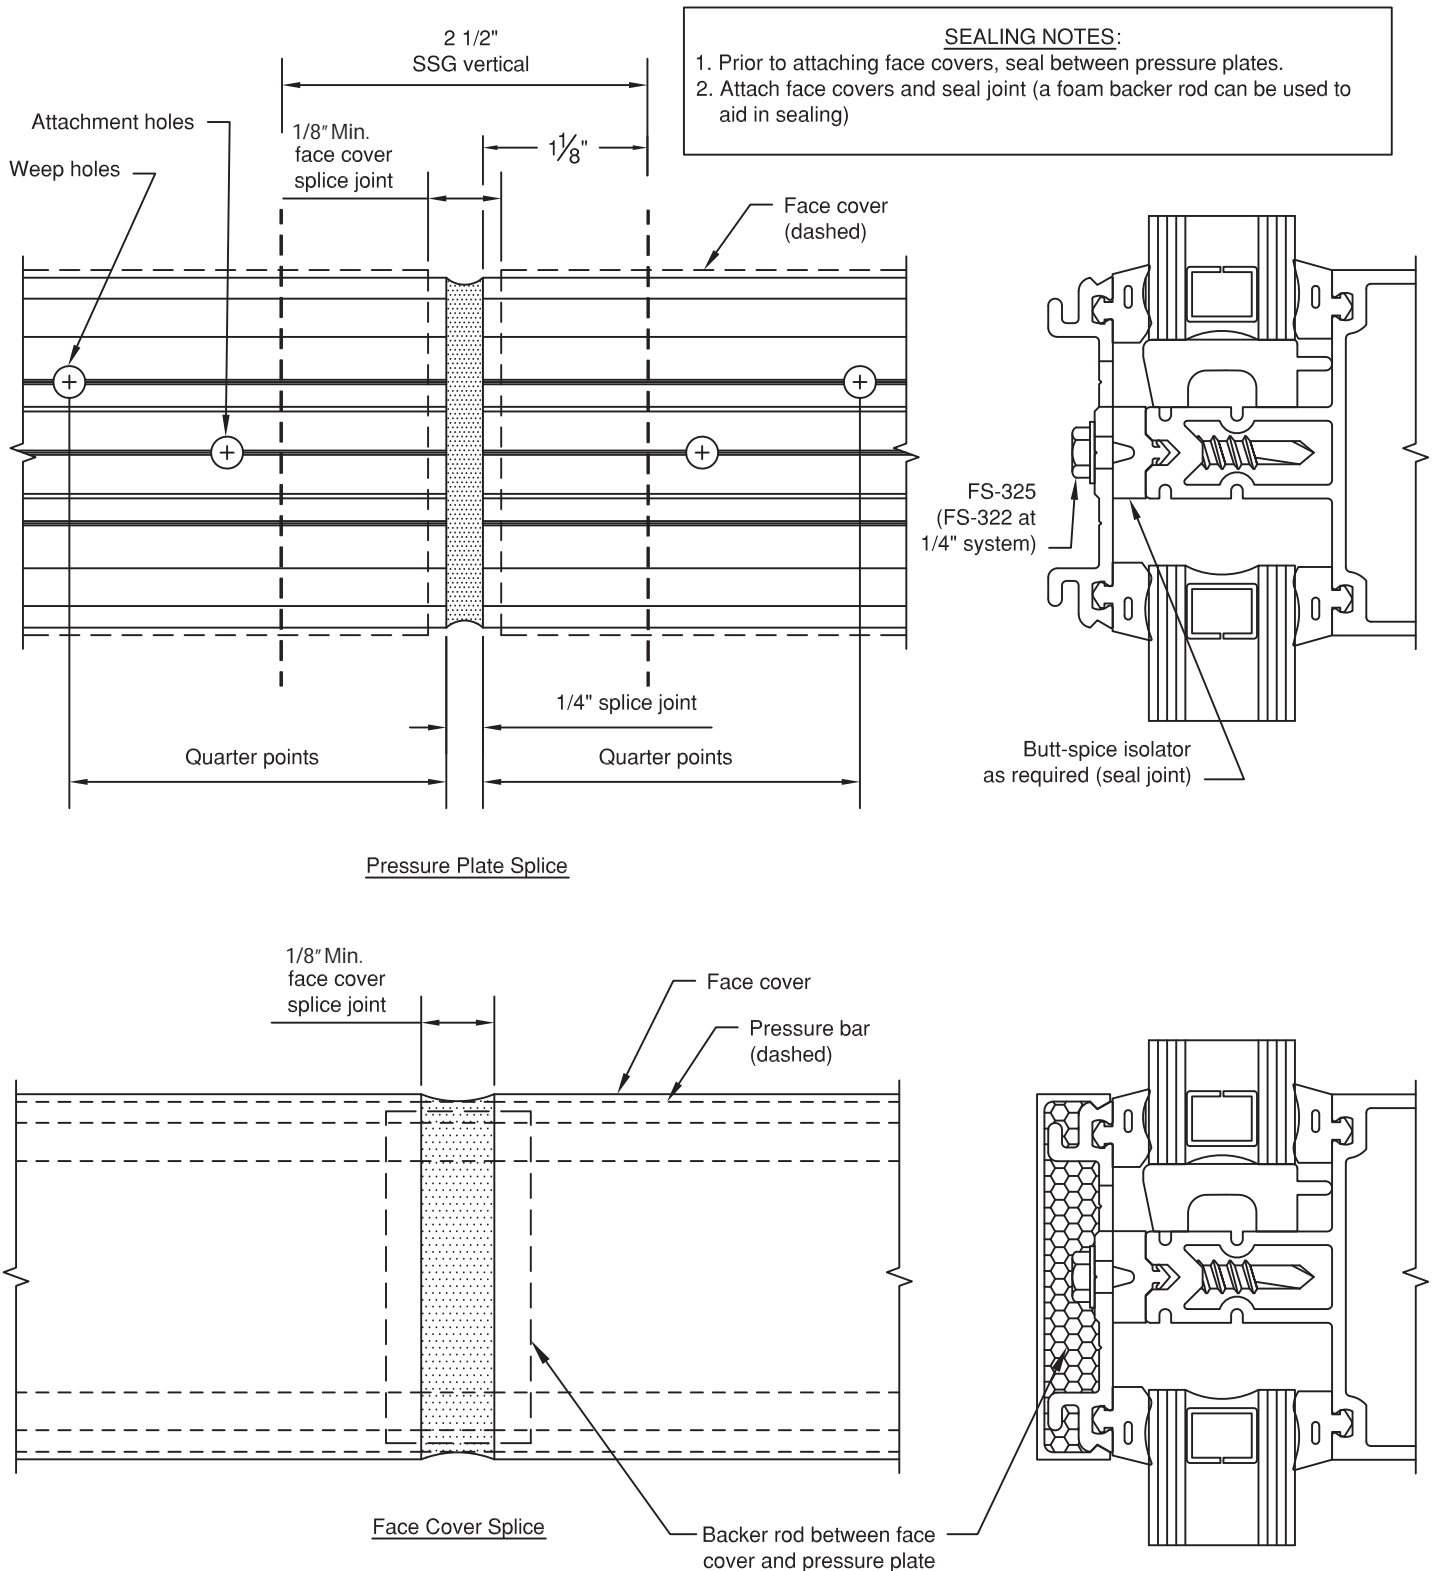

Figure 17
3.11 After removing horizontal temporary retainers, center horizontal pressure plates in opening, leaving 1/8" gap on each end. Make sure that weep holes are on the top side of the pressure plate. **NOTE: Horizontal pressure plates and face covers run continuous over SSG mullions, not to exceed 3 lites in length. SEE FIGURE 17 for splicing and sealing instructions.**